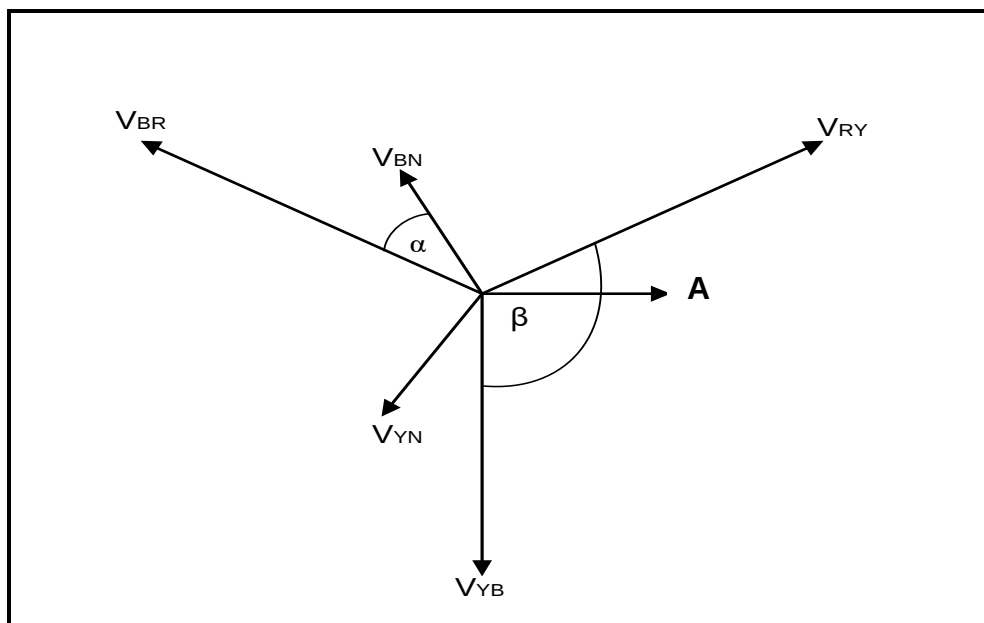

FIGURE 4.4
4.4 Refer to FIGURE 4.4 below and answer the questions that follow.
4.4.1 Identify the diagram shown in FIGURE 4.4. (1)